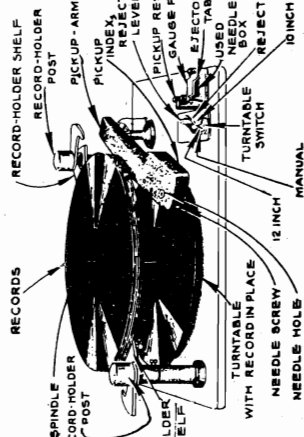

Fig. 2—Top View of Automatic Record Changer
2. With the Index and Record Reject Lever at "Manual", place the first of the series of records on the turntable and the remainder of the series (up to seven 10" or six 12" records) on the record holder posts (as shown in Fig. 2). The records should be arranged in the desired order with the desired selection face up and the last selection on top.